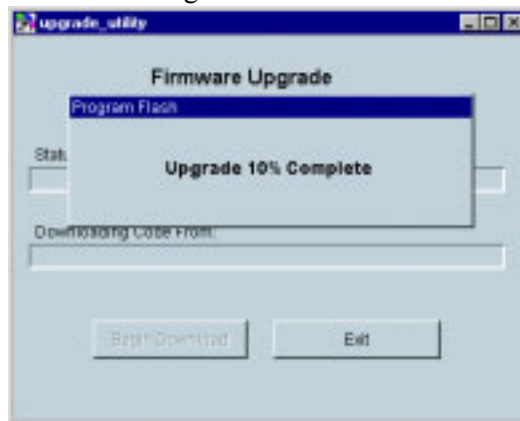

Figure 6-4. Progress Window
4. After a series of windows displaying the status of the operation, the **Program Flash** window showing the progress of the upgrade is displayed as shown in Figure 6-4.